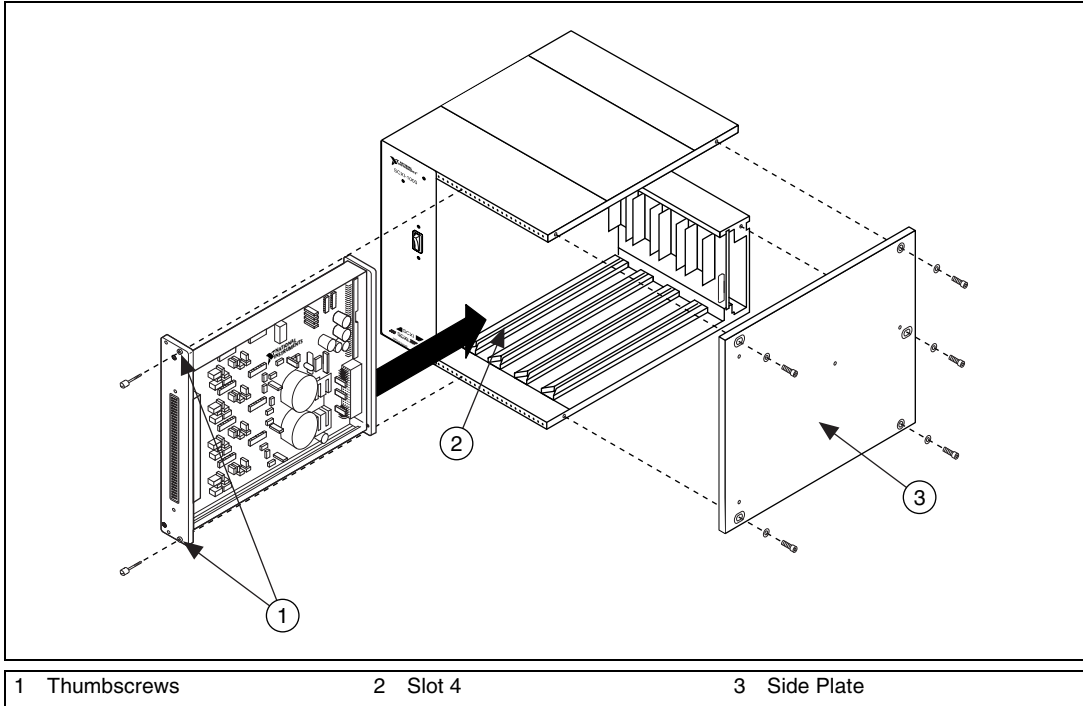

Figure 3. Side Plate Removal and Module Installation
To make sure the module is ready for calibration, refer to Figures 3 and 4 as you complete the following steps:
1. Remove the side plate of the SCXI chassis and the cover of the SCXI-1121 module to access the potentiometers and jumpers, as shown in Figure 3.